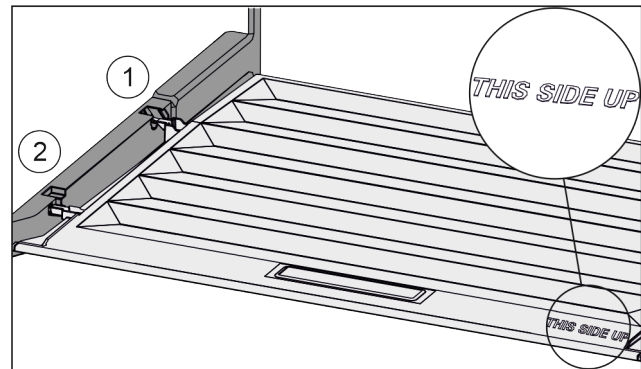

*Fig. 101*
- ▶ Pull the lid up at the front in the retaining parts to the opening *Fig. 101 (1)*.
- ▶ Lift from the back and pull it up and out *Fig. 101 (2)*.